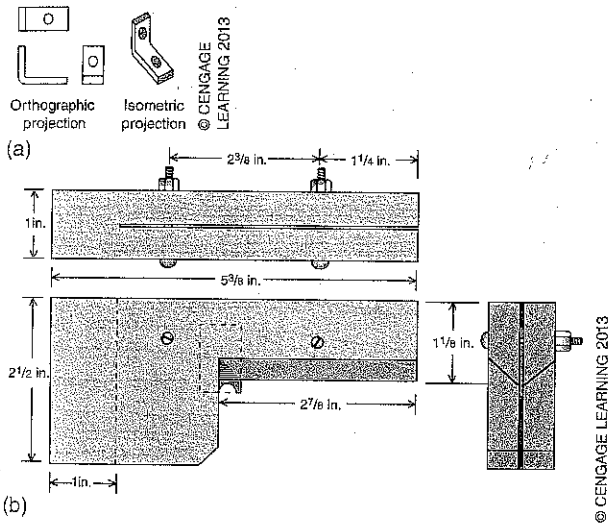

Figure 5-66: Orthographic projections.
- ▶ **Orthographic projections** show three different sides of an object as though seen head-on (see Figure 5-66).